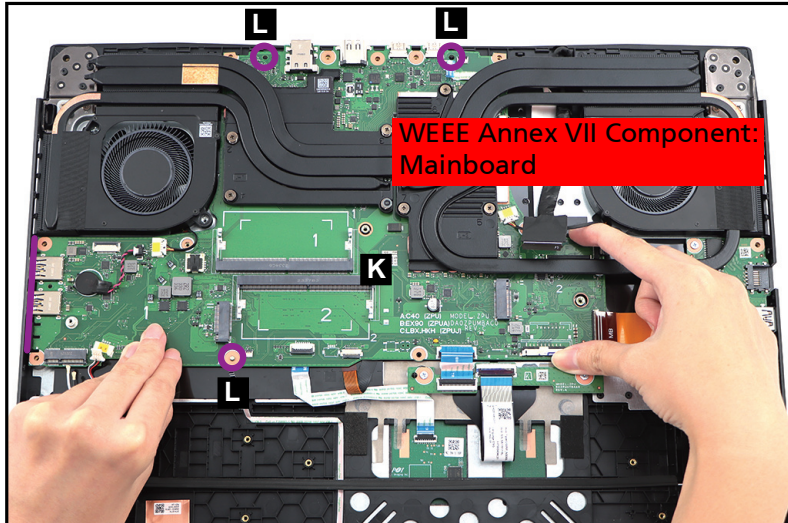

Figure 1-35. Mainboard Removal
12. Release the mainboard (K) with the heatsink and fans from the I/O ports slots and guide pins (L) on the top assembly (Figure 1-35). Then remove the mainboard.